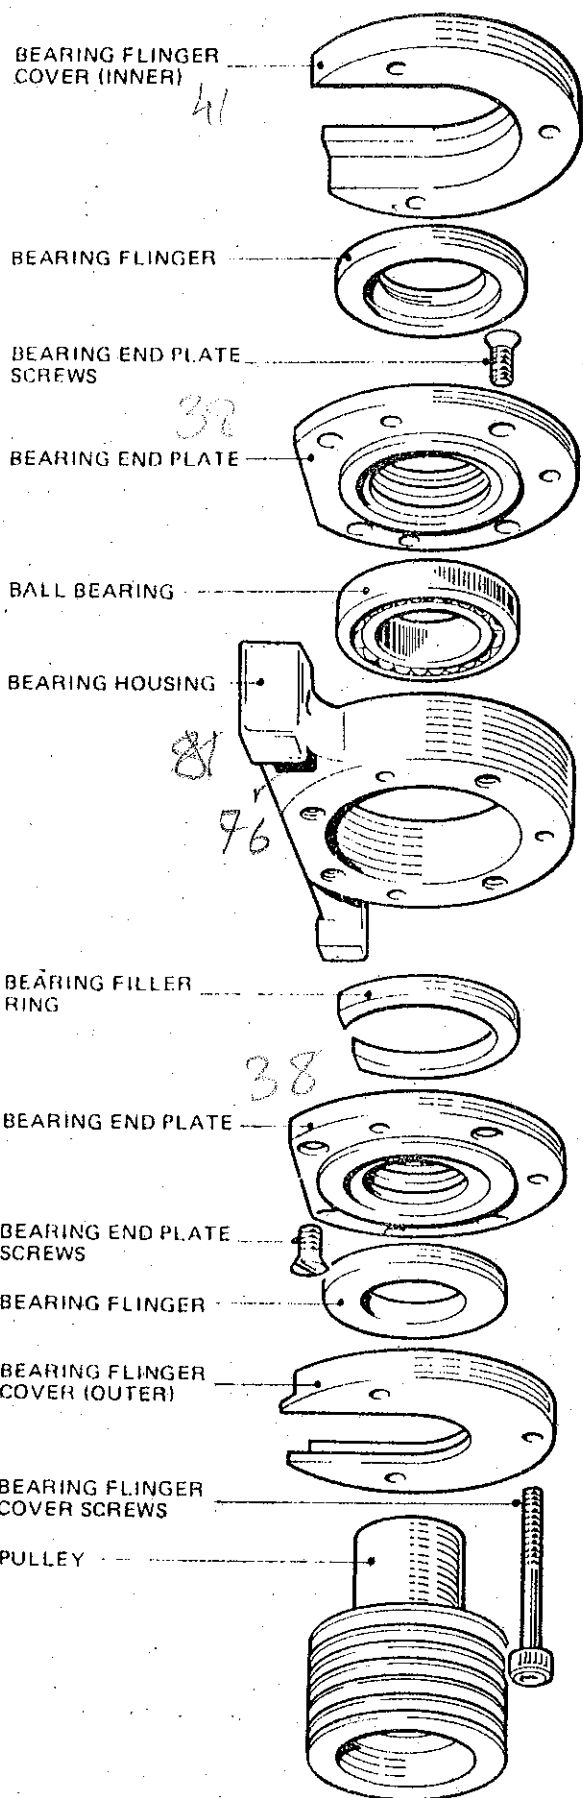

Figure 26. Rear Bearing Assembly
17. Removal of the Rear Bearing (Figure 26)
18. Assembly of the Rear Bearing (figure 26)